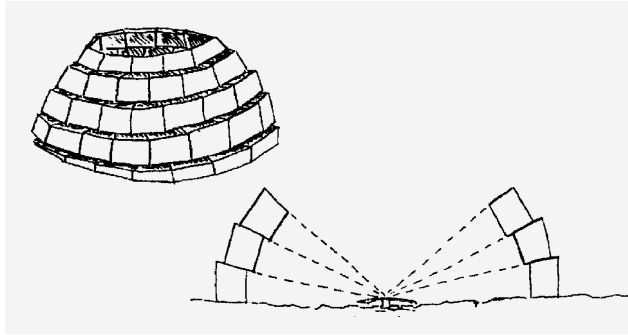

Figure 11-14
- Each flight of blocks is stacked slightly closer to the center as shown in figure 11-14.